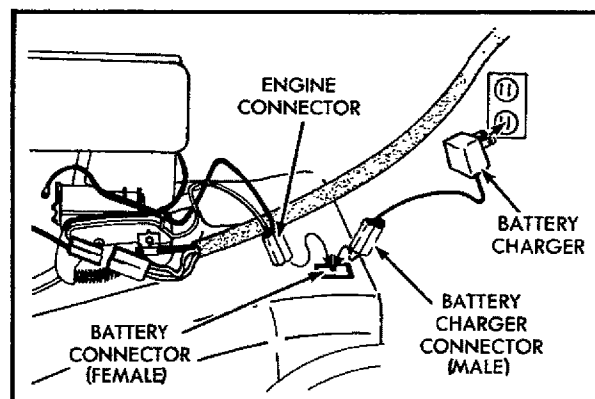

FIG. 13
1. Connect battery charger connector (male) to the battery connector (female) as shown in Fig. 13.
2. Plug the battery charger into 110 Volt-A.C. outlet (See Fig. 13).